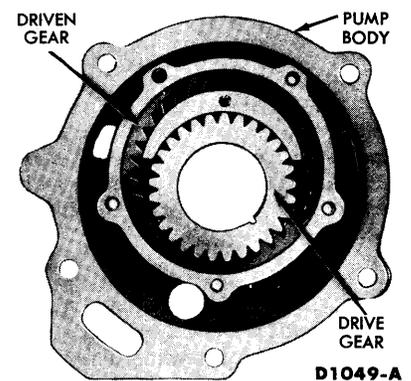

FIG. 19—Rear Pump
2. Mark the top face of the pump drive and driven gear with prussian blue to assure correct installation of gears at assembly (Fig. 19). **Do not scratch or punch mark the pump gears.**